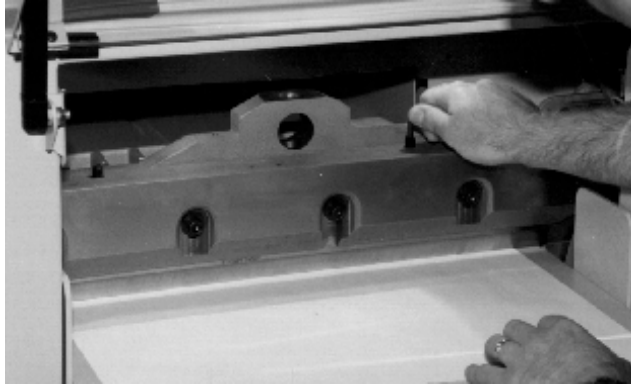

Figure 25
13. Turn the knife adjusters down evenly, a little at a time, until the knife cuts through the bottom sheet of paper the entire length of the cutting stick (Figure 25). Turning the screws down evenly prevents uneven wear on the knife and cutting stick.